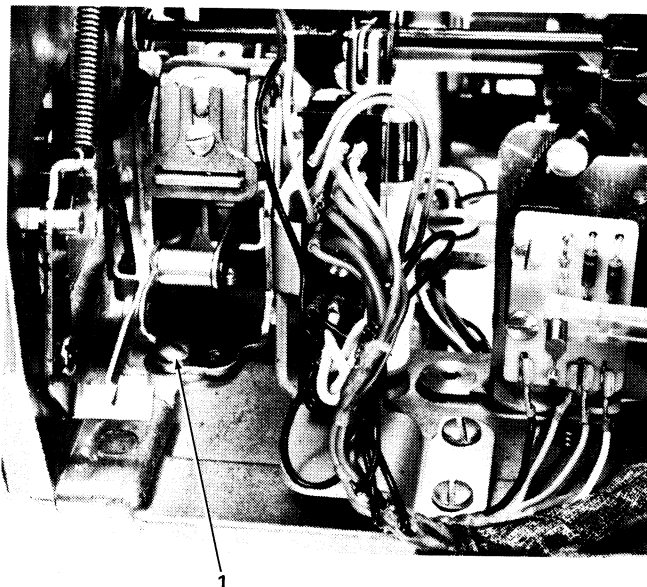

Figure 4-33. Index Magnet Assembly Removal (Rear of Printer)
6. Return the machine to its normal operating position and remove the rear index magnet mounting screw (No. 1, Figure 4-33).